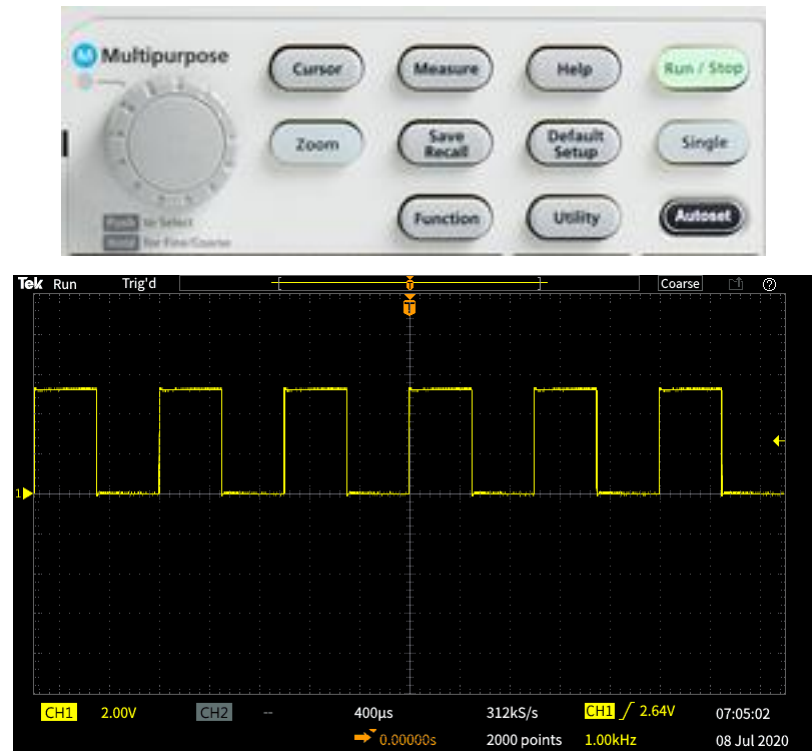

Figure 5. Probe Comp Signal display after Autoset
4. Press **Autoset** button to auto scale the signal on screen similar to the Figure 5.